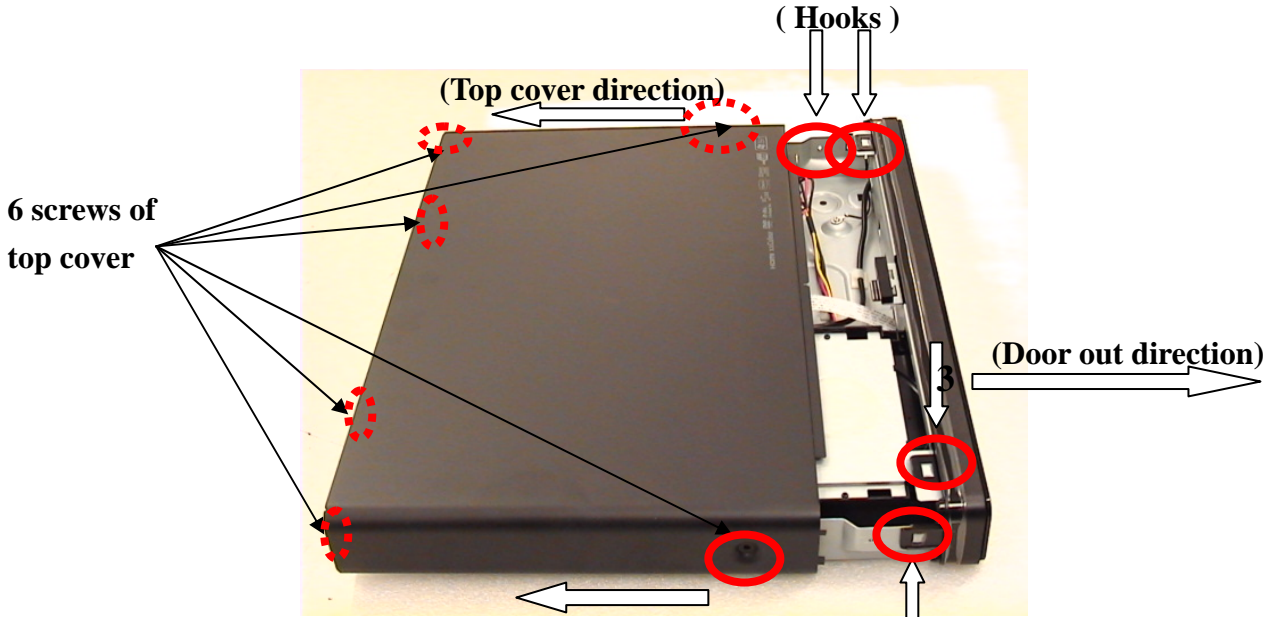
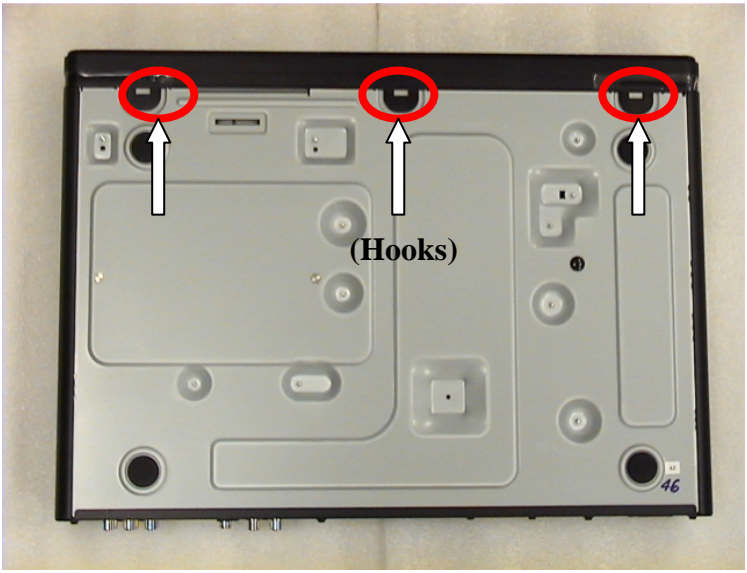

Figure 4-2-1
Figure 4-2-2
- 3) Finally, remove 7 hooks (See Figure 4-2-1 & Figure 4-2-2)
- 1) Remove top cover (see Figure 4-2-1)
- 2) Remove Cover. (See Figure 4-2-1)